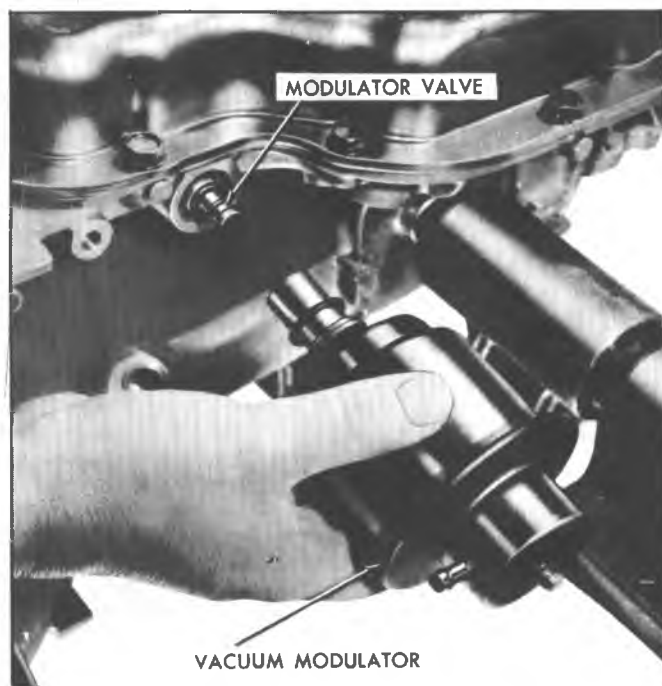

Fig. 7A-4C--Removing Vacuum Modulator and Valve
4. Remove modulator assembly attaching screw and retainer (Fig. 7A-3C).
5. Remove vacuum modulator assembly and "O" ring seal from case (Fig. 7A-4C). Discard "O" ring.